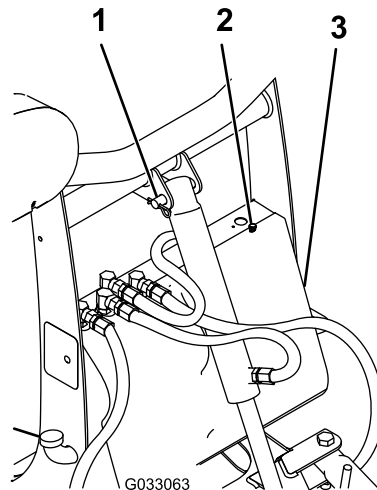

Figure 37
2. Remove the hairpin cotter and clevis pin from the top of the lift cylinder and lean it forward (Figure 37).
3. Remove the 2 thumbscrews securing the coupler-tower cover to the coupler tower (Figure 37).